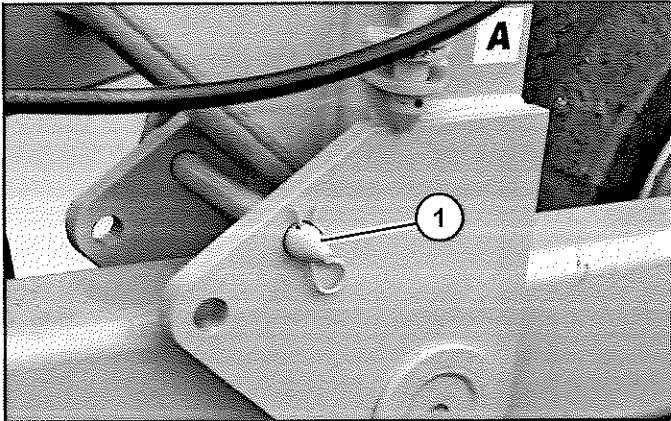

Figure 25
16. Be sure walking beam pins (Item 1) (Figure 25) are back in the top position on both sides of the conveyor before performing any operation.